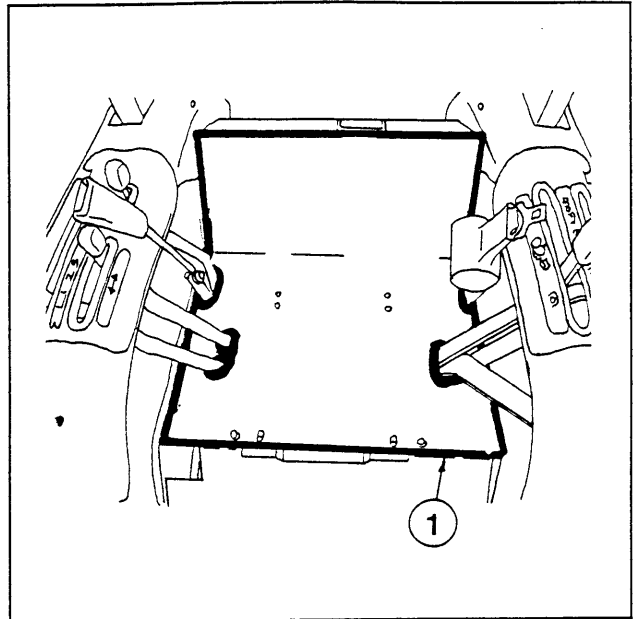

Figure 1
3. Take the seat shield (1) and position it directly over the transmission, in line with the four-hole bolt pattern used to fasten the seat to the tractor. Cut all necessary openings in the upholstery for controls, levers, and seat bolts. Remove the seat shield cover. Rebolt the seat tracks, through the shield, to the tractor. Access to the front bolts is possible through the access hole in the seat shield. Then fasten the seat shield, through the front seat panel, to the tractor, using the factory bolts removed in step 2. Ensure that all controls are permitted to operate normally. Reattach the cover. (see Figure 1)